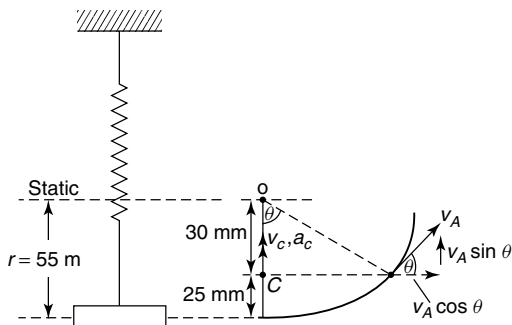

Figure 17.4
**Problem 1.** A mass of 1.5 kg is attached to a vertical spring, as shown in Figure 17.4. When the mass is displaced downwards a distance of 55 mm from its position of rest, it is observed to oscillate 60 times in 72 seconds. Determine (a) periodic time, (b) the stiffness of the spring, (b) the time taken to travel upwards a distance of 25 mm for the first time, (c) the velocity at this point.
(c) From Figure 17.4,
(d) Velocity at C in Figure 17.4,